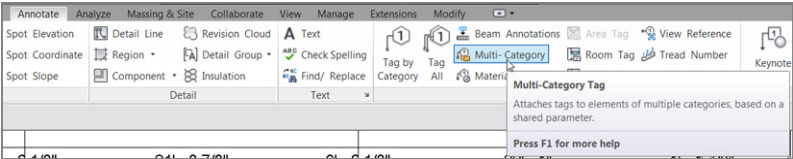

FIGURE 11.85: The Multi-Category button on the Tag panel
- 13. On the Annotate tab, click the Multi-Category button on the Tag panel, as shown in Figure 11.85.